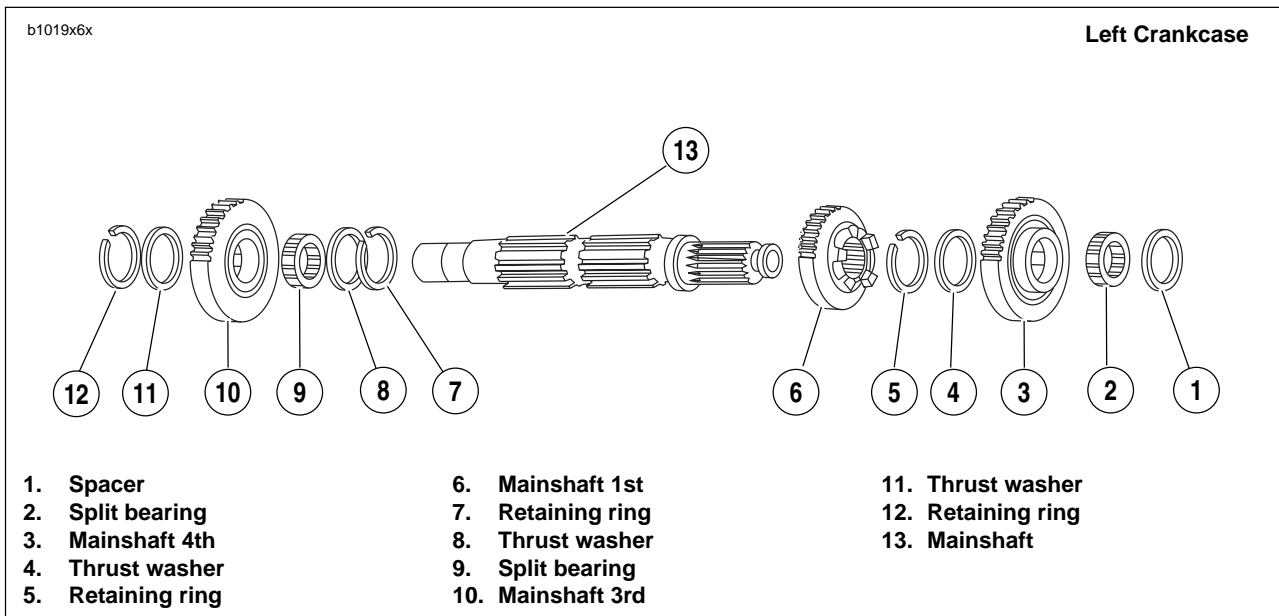

Figure 6-65. Transmission Mainshaft Assembly Once Removed from Left Crankcase/Disassembly
- See Figure 6-65. Remove spacer (1), mainshaft 4th gear (3), split bearing (2) and thrust washer (4) from the threaded end of the mainshaft.
- On the mainshaft, between mainshaft 1st gear (6) and mainshaft 3rd gear (10), use RETAINING RING PLIERS (Part No. J-5586) to expand retaining ring (7) and move next to mainshaft 1st gear along with thrust washer (8).
- Move mainshaft 3rd gear (10) as far as possible toward mainshaft 1st gear (6).
- Expand retaining ring (12) at opposite side of main shaft 3rd gear (10) and slide off end of mainshaft with thrust washer (11).
- Remove mainshaft 3rd gear (10) and its split bearing (9).
- Slide thrust washer (8) off end of mainshaft.
- Expand retaining ring (7), which is next to mainshaft 1st gear (6), and slide off end of shaft.
- Remove mainshaft 1st gear (6).
- Expand retaining ring (5) and remove.